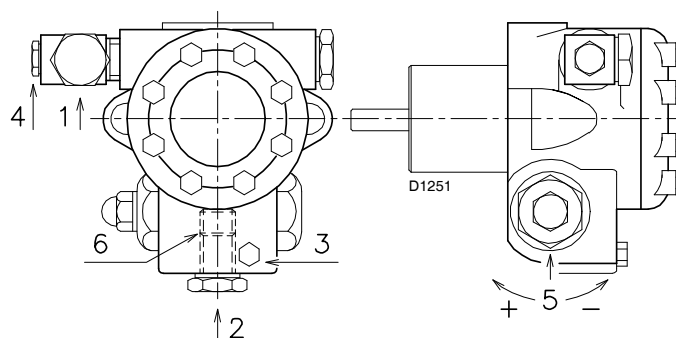

Fig. 21
For the priming pump loosen the screw 3)(Fig. 21) in order to bleed off the air contained in the suction line and wait until the fuel flows out.
Key Fig. 21
- For self-priming to take place, the screw 3)(Fig. 21) must be loosened in order to bleed off the air contained in the suction line.
- The pump can be considered to be primed when the light oil starts coming out of the screw 3)(Fig. 21).